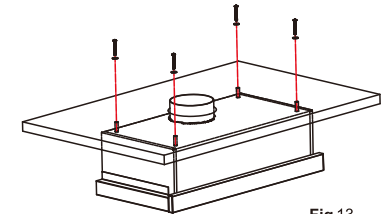

Fig.13
3. Insert 4 mounting screws with 4 mounting gaskets to fix the hood .(Fig.13)